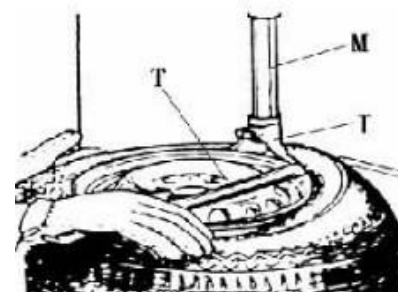

Figure 6
4. Lower the Vertical Arm (M) until the mounting/demounting head (I) rests next to the edge of the rim.
7. Insert the lifting lever (T) between the tyre bead and the front section of the mounting/demounting head (I), and move the tyre above the mounting/demounting head as shown as figure 6.